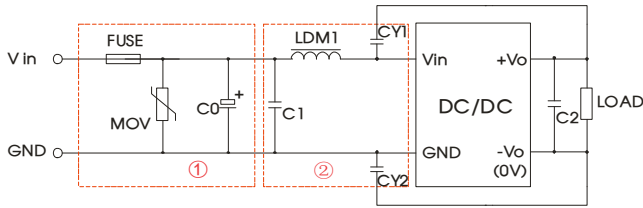

Fig. 3
| EMI | CE  | CISPR22/EN55022 CLASS A (Bare component)/ CLASS B (see Fig.3-② for recommended circuit) |  |                  |                  |
|     | RE  | CISPR22/EN55022 CLASS A (Bare component)/ CLASS B (see Fig.3-② for recommended circuit) |  |                  |                  |
|     | EFT   | IEC/EN61000-4-4   | ±2KV (see Fig.3-① for recommended circuit) | perf. Criteria B |                  |
|     | Surge   | IEC/EN61000-4-5   | ±2KV (see Fig.3-① for recommended circuit) | perf. Criteria B |                  |
Notes: Part ① in the Fig. 3 is used for EMS test and part ② for EMI filtering; selected based on needs.